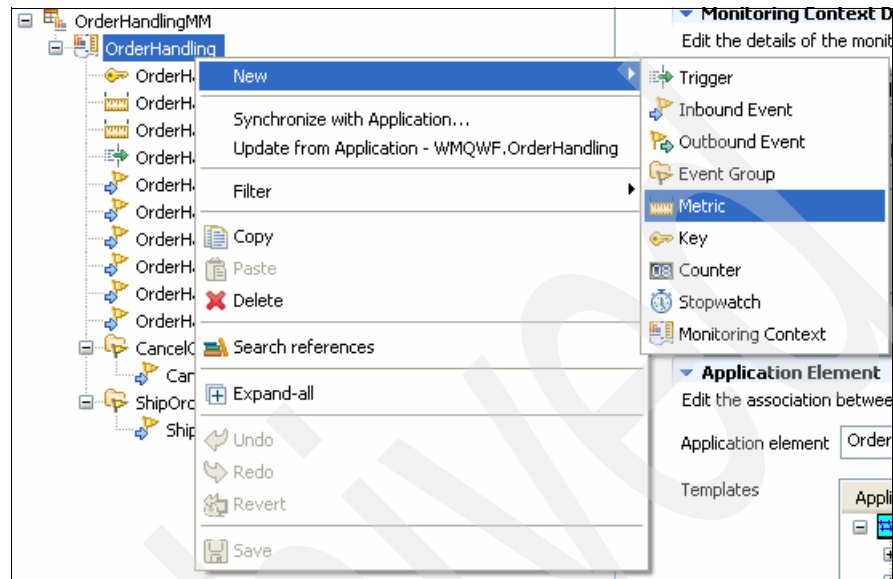

Figure 8-58 Adding a metric
1. Right-click **OrderHandling** and click **New** → **Metric** to add a metric (Figure 8-58).